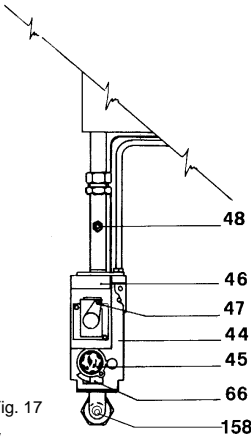

Fig. 17
- Loosen the screw in the burner pressure test point (fig. 17) and attach a gauge.
- e. Disconnect one of the wires from the «Modureg» (fig. 17), this will reduce the burner to minimum which should read 2.7 mbar +/- 0.5 mbar. If the burner pressure is not as stated check the inlet working pressure (fig. 17) which should be minimum 20 mbar. If that is correct, consult Ferrol SERVICE DEPARTMENT. No attempt should be made to alter D.H.W. burner pressure.